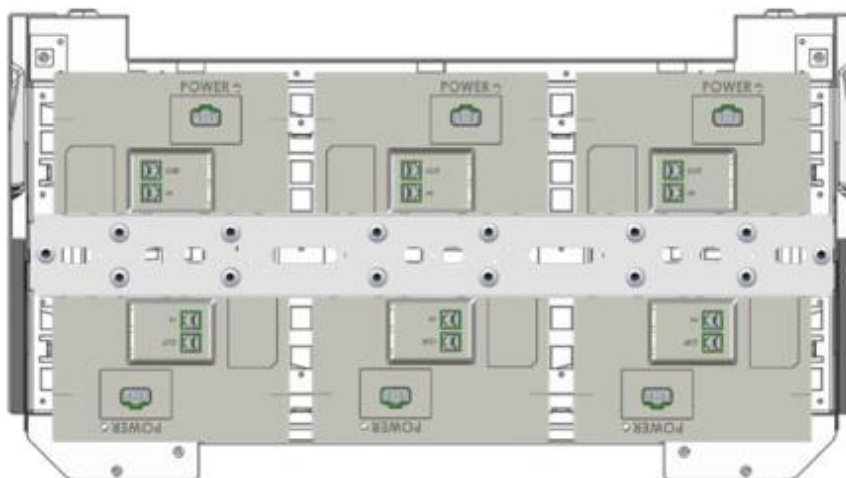

Figure 3: Energypacks fixed to the grounding support
5. Screw each Energypack with two screws (M5) to the downholder/grounding support. For example, refer to Figure 3.